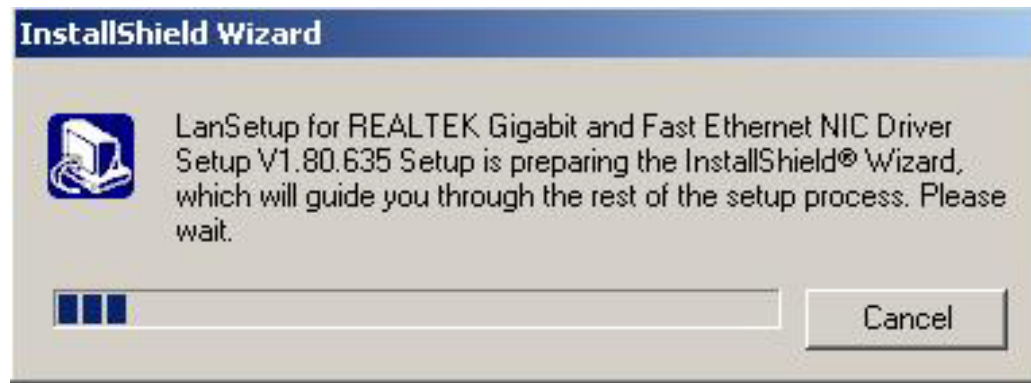

Figure 6-21: Preparing Setup Screen
Step 5: The **Install Shield Wizard** is prepared to guide the user through the rest of the process (**Figure 6-21**).